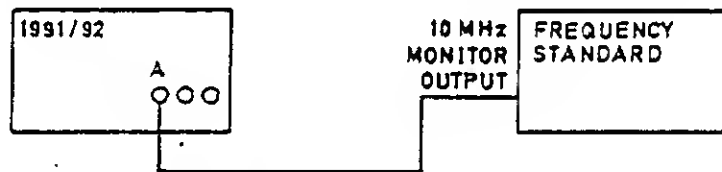

Figure 6.38 - Connections for Internal Frequency Standard PVP
- Connect the test equipment as shown in Figure 6.38